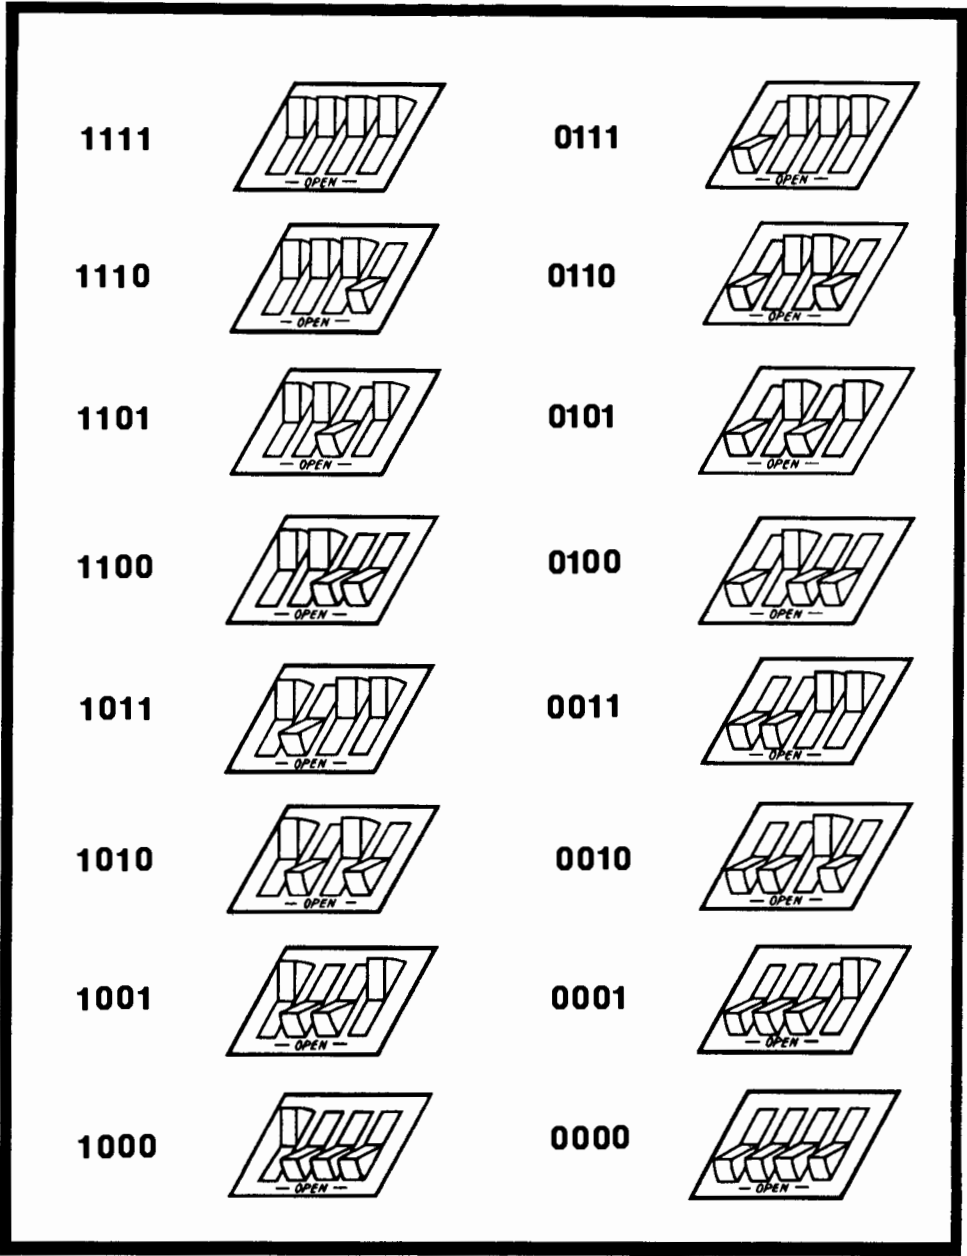

Figure 3-4. Examples of Switch Settings
4. With a pencil or your fingers, set the switches to the positions suggested for your system in the installation program. See figure 3-4.